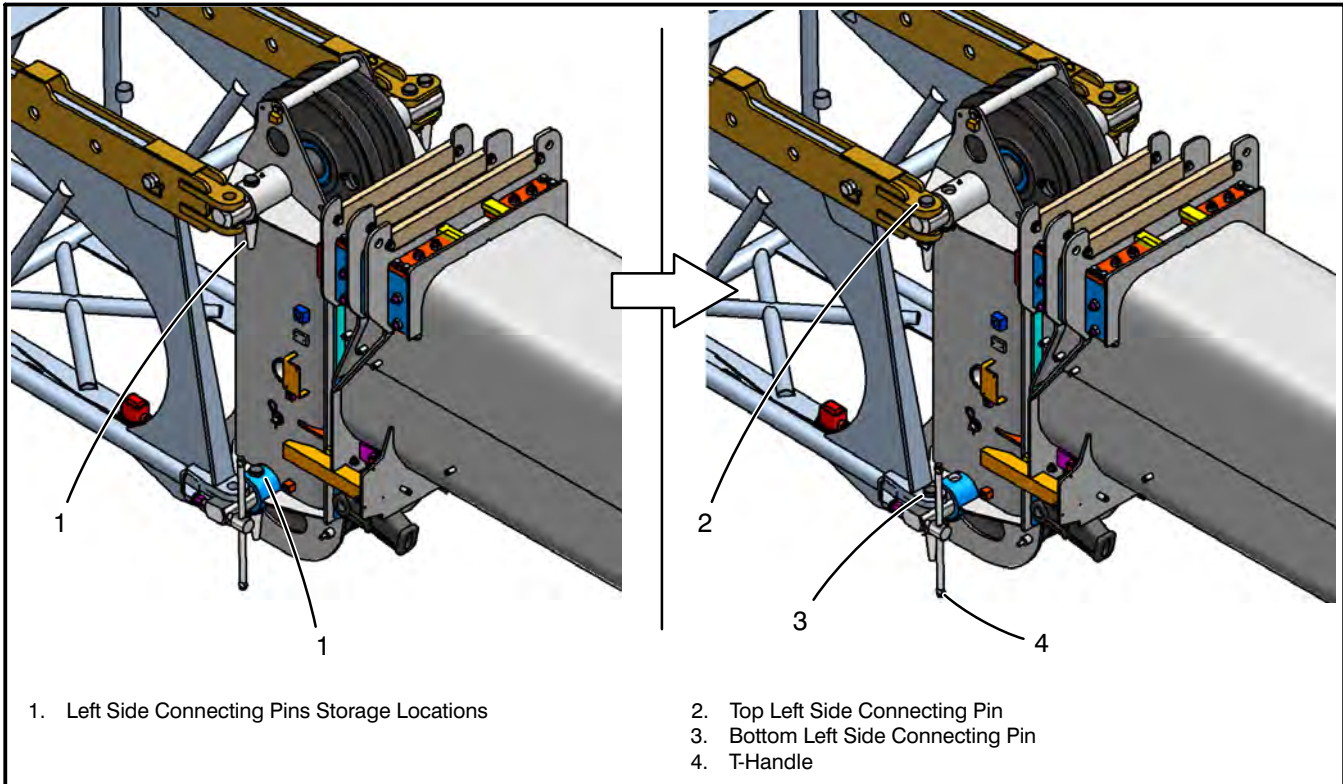

Figure 4-107
9. Remove the two fly connecting pins from the boom head machinery cross shafts on the left side of the boom head. Refer to Figure 4-107. Install the top pin to connect the fly lug to the boom head machinery cross shaft on the left side of the boom head. Turn the t-handle to push and align the bottom left fly lug and the bottom boom head machinery cross shaft. Install the bottom left fly connecting pin. (Install the pins with the head on top and keeper on the bottom.) Install the pin keepers.